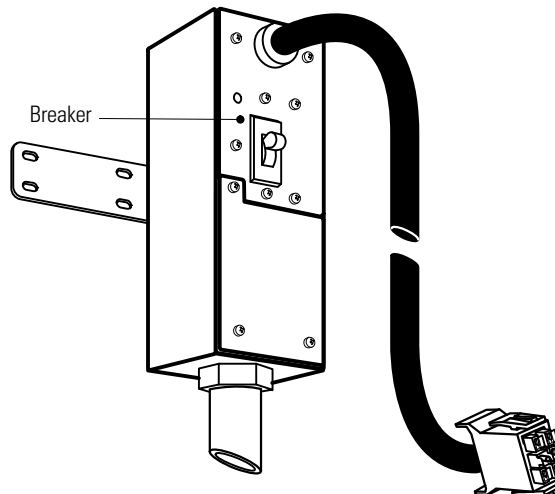

Figure 16. External Battery Interconnect with Breaker Closed (ON)
5. Close the External Battery Interconnect breaker (ON), as shown in Figure 16.